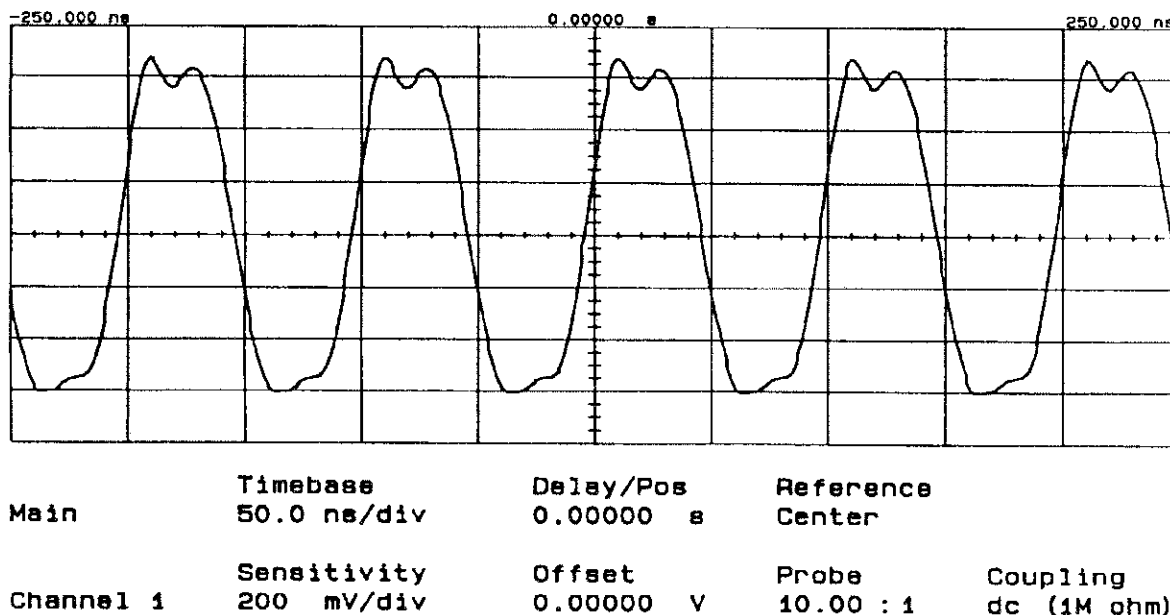

Figure 5-4. Waveform at A1U24B(12)
- a. Verify the presence of a 10 MHz signal at A1U24B(12). See *Figure 5-4*. If the signal is correct, then replace the A1 assembly. If the signal is not present or is not correct, then verify the following:
- 1) A1Q4(3) should be approximately +15 Vdc. If not, replace the A1 assembly.